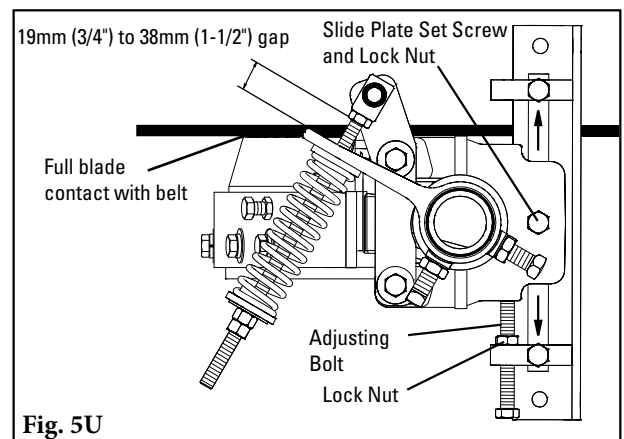

Fig. 5U
- Loosen slide plate set screws and lock nuts. Adjust by turning adjusting bolts either up or down (Fig. 5U).
- Please note, when fully tensioned there should be approximately 19mm to 38 mm (3/4" to 1-1/2") of space between the torque arm and pivot block (Fig. 5U).